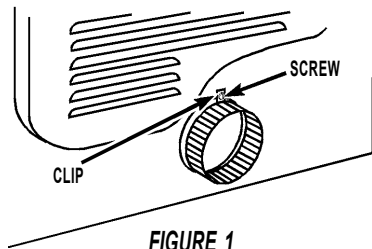

FIGURE 1
2. In some applications, it may be necessary to remove the screw from the clip that holds the vent to the back of the cabinet. Push clip down and remove clip from vent. Set clip aside. See Figure 1.